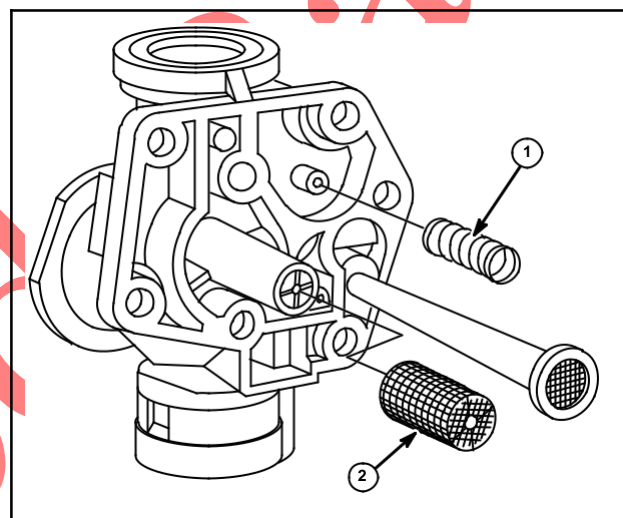

Fig. 8
Install Throttle Shaft and Plate (Fig. 8)
4. Slide jet screen (2) onto main jet tube and place fuel pump spring (1) on spring boss, Fig. 8.